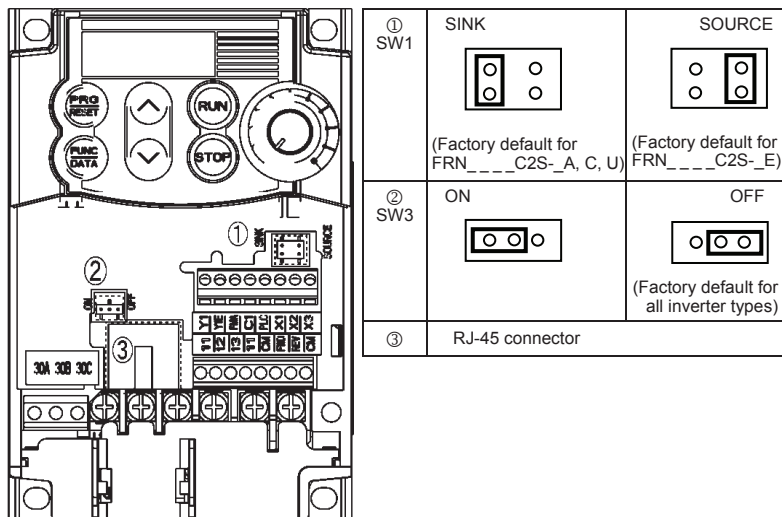

Figure 2.12 Locations of Jumper Switches and RJ-45 Connector
Switching the jumper switches (shown in Figure 2.12) allows you to customize the specifications of the digital I/O terminals and the RS-485 communication terminating resistor.
① SW1	<p>SINK/SOURCE switch for digital input terminals</p> <ul style="list-style-type: none"> • To use digital input terminals [X1] to [X3], [FWD] and [REV] in the SINK mode, set a jumper in the sink position, to use them in the SOURCE mode, set a jumper in the source position. (See Figure 2.12.) • To switch between SINK and SOURCE modes, use a mini needle-nose pliers or the similar tool to change the mounting position of the jumper.
② SW3	<p>Terminating resistor ON/OFF switch for RS-485 communication</p> <ul style="list-style-type: none"> • To connect an optional remote keypad, set a jumper in the OFF position (factory default). • If the inverter is connected to the RS-485 communications network as a terminating device, set a jumper in the ON position. • To switch the terminating resistor ON and OFF, use a mini needle-nose pliers or the similar tool to change the mounting position of the jumper.
Figure 2.12 shows the locations of jumper switches and the RJ-45 connector.